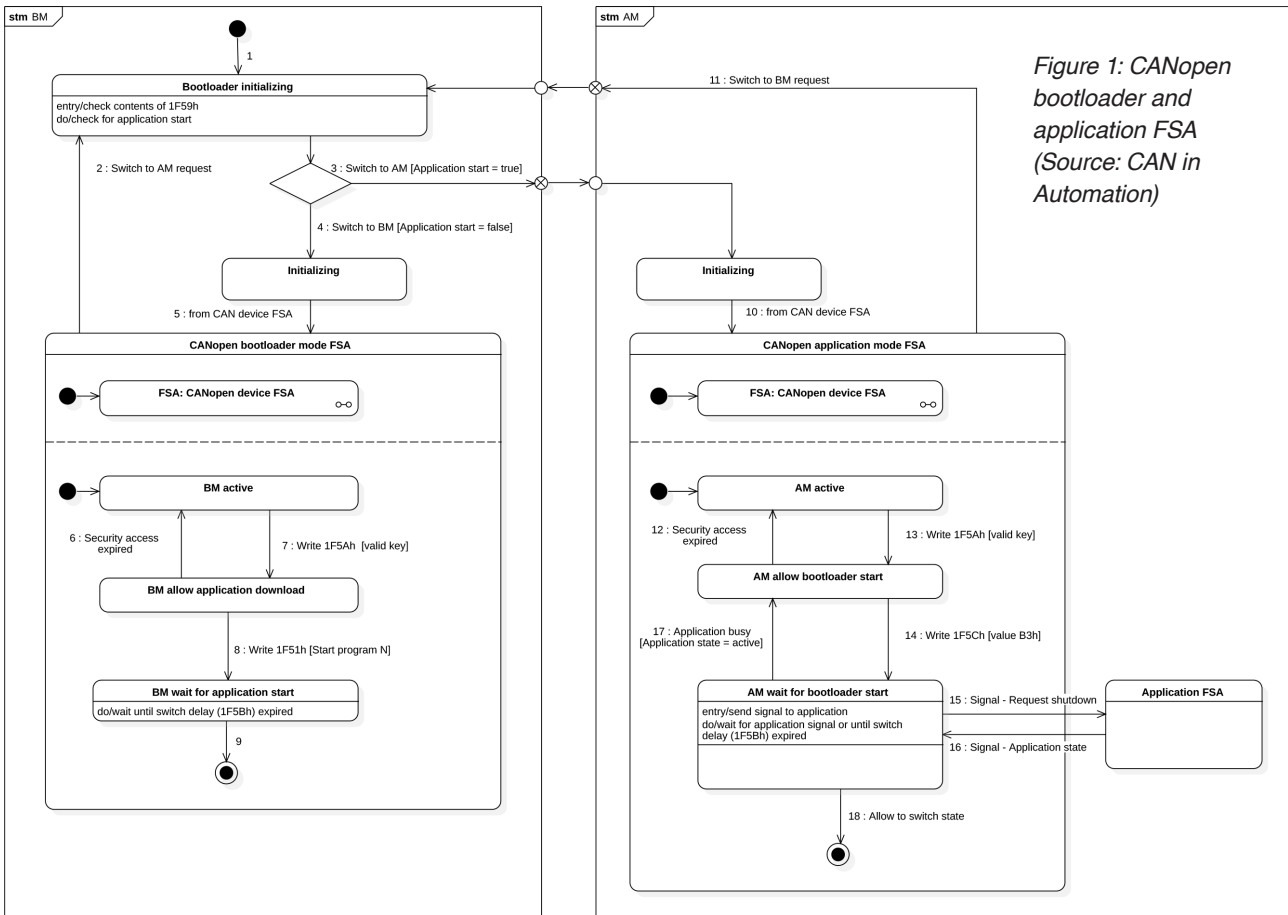

Figure 1: CANopen bootloader and application FSA (Source: CAN in Automation)
for embedded devices. The FSA defines a predictable device behavior for all FSA states. Thus, configuration tools or host controllers switching the FSA states of CANopen devices can expect a given device behavior. The FSA specified in CiA 710 (see Figure 1) differentiates between the basic modes of operation, a bootloader mode (BM) and an application mode (AM). When an embedded device is switched on, at first, it transits to the "bootloader initializing" state. The existence of a valid application program to be started is checked by means of the autostart information, referred to by data object 1F59_h. If no valid program is found or starting a program is not intended, the device switches to the bootloader mode by default. As usual for CANopen devices, then the device enters the "Initialization" state, where the setup operations, including CAN controller initialization and bit rate configuration are performed, in accordance to CiA 1301. In bootloader mode (BM), the device expects and verifies the user authentication. Legal tools or CANopen host controllers have therefore the possibility to identify themselves to the CANopen device in bootloader mode. The successful identification initiates the CANopen device being ready to accept new application programs or configuration data. Therefore, the CANopen device enters the "BM allow application download" state, where it waits to receive a new application program. Prior to the data transfer of the firmware via CAN, tools or CANopen host controllers can learn the CANopen device's attributes such as flash status and flash operation times. This enables them to adapt their behavior – in particular their internal time-outs – accordingly. After a successful program transfer, tools or CANopen host controllers force the CANopen device to leave the bootloader mode, and (typically) to start the new application program. When the new application program has been started, the device runs in application mode (AM).